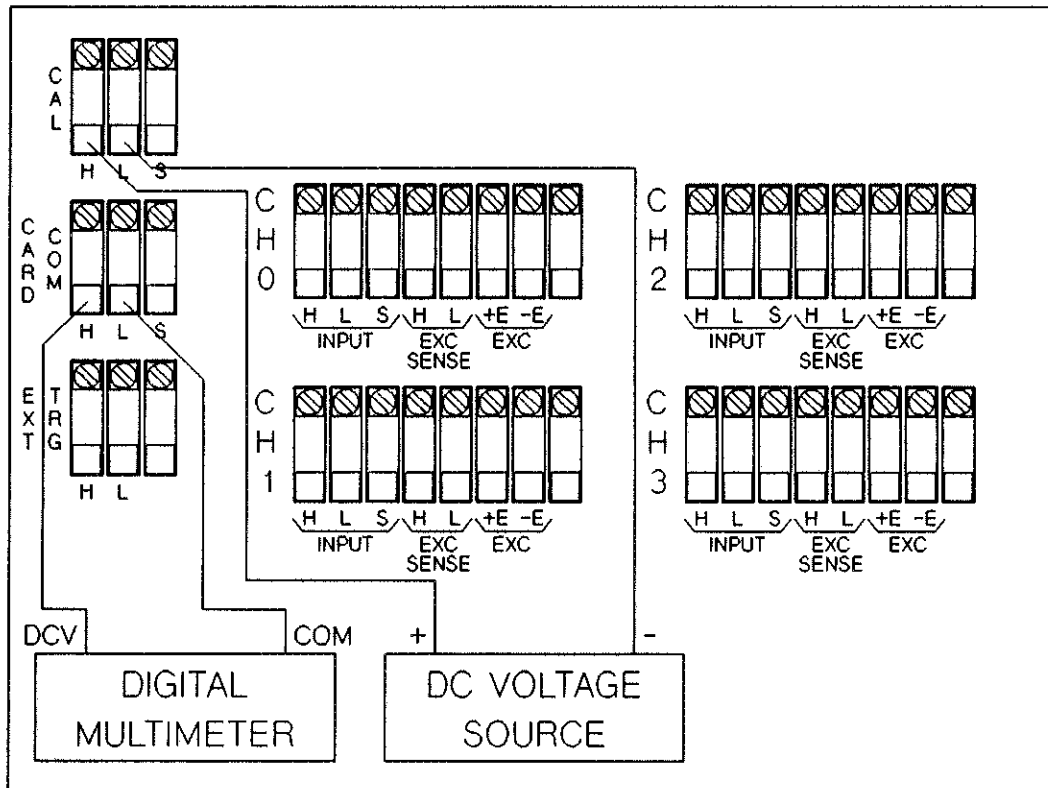

Figure 20-7 Calibration Connections
3. Refer to Figure 20-7. Connect the digital multimeter to the CARD COM H and L output terminals on the test fixture. Connect the dc voltage source to the H and L CAL Terminals.
13. Refer to Figure 20-7. Connect the digital multimeter to the CARD COM H and L output terminals on the test fixture. Connect the dc voltage source to the H and L CAL Terminals.
23. Refer to Figure 20-7. Connect the digital multimeter to the CARD COM H and L output terminals on the test fixture. Connect the dc voltage source to the H and L CAL Terminals.